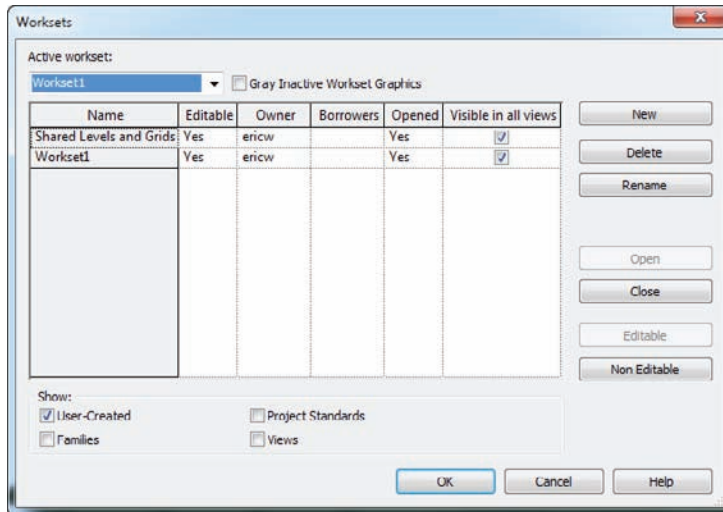

FIGURE 22.4 The Worksets dialog
4. The next dialog you arrive at is named Worksets, as shown in Figure 22.4. As you can see, your two worksets are present in a spreadsheet format. It says they're both editable and that you own them. Congratulations. There is plenty to explain here:
- The Show area at the bottom of the Worksets dialog lets you add specific families, project standards, and views to the workset list (see Figure 22.4).